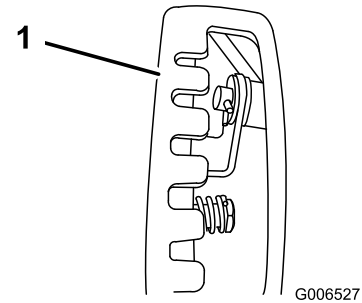

Figure 8
6. Pull up the speed-control rod and insert the trunnion into the hole in the speed-selector lever (Figure 8).
Note: For easier installation, look down through the opening in the speed selector (Figure 8).